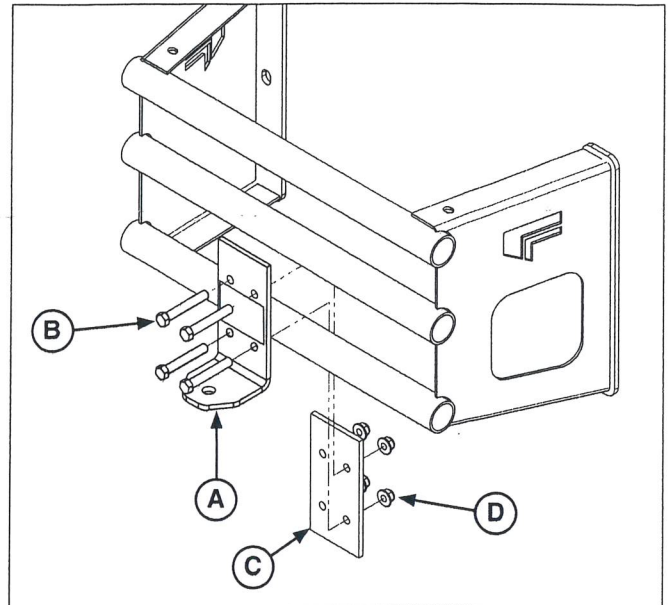

Figure 1. Install Hitch Kit (Ferris & Simplicity)
3. Install the 3/8-16 X 2-1/2" bolts (B, Figure 1) through the hitch plate (A).
5. Install the back plate (C) and loosely secure with the 3/8-16 nylock flange nuts (D).